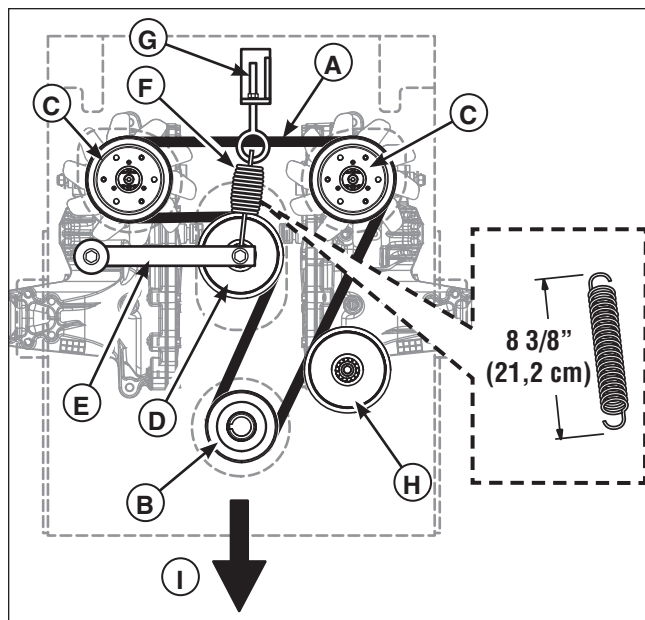

Figure 37. Hydraulic Pump Drive Belt Replacement
4. Loosen the nut on the spring anchor eyebolt (**G**, **Figure 37**) to release the majority of the belt tension. Use caution and remove the nut to completely release the tension.